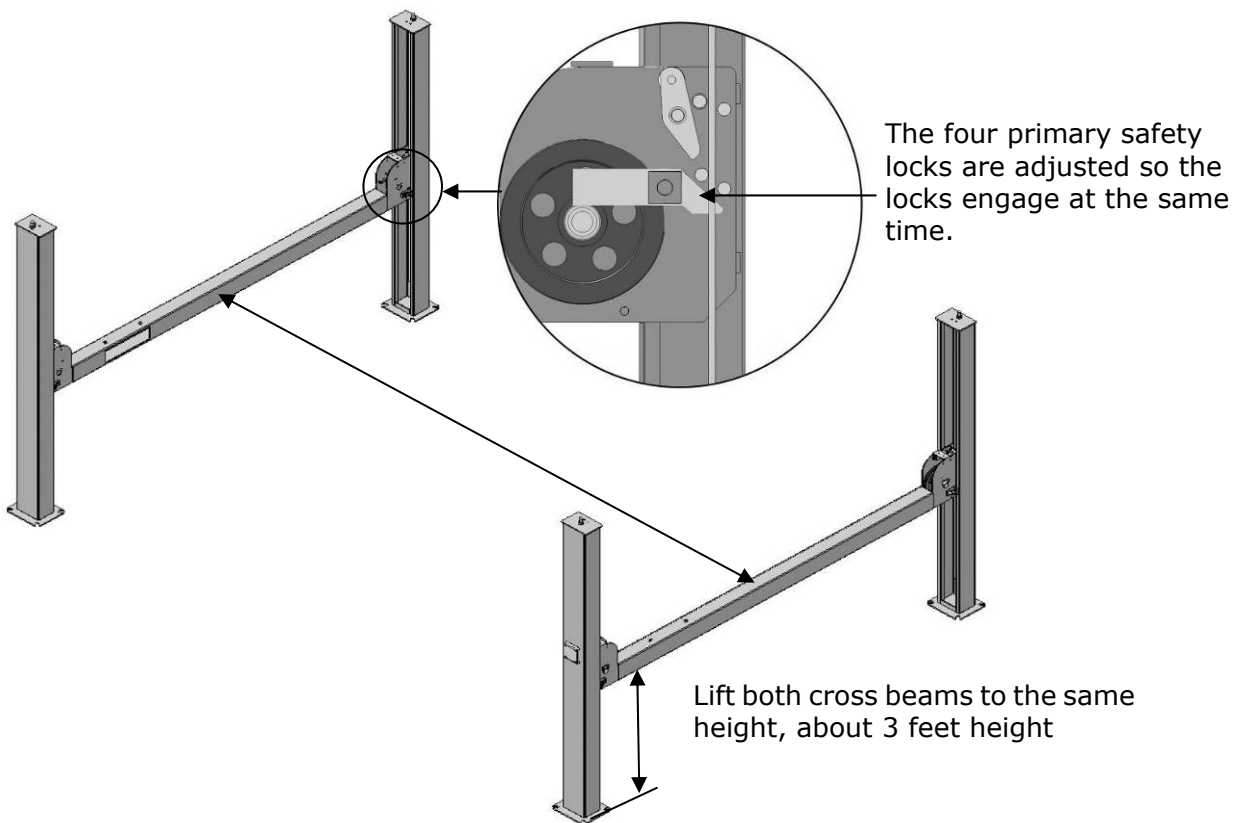

Fig. 17
G. Put the Cross Beams at the same height (See Fig. 17).